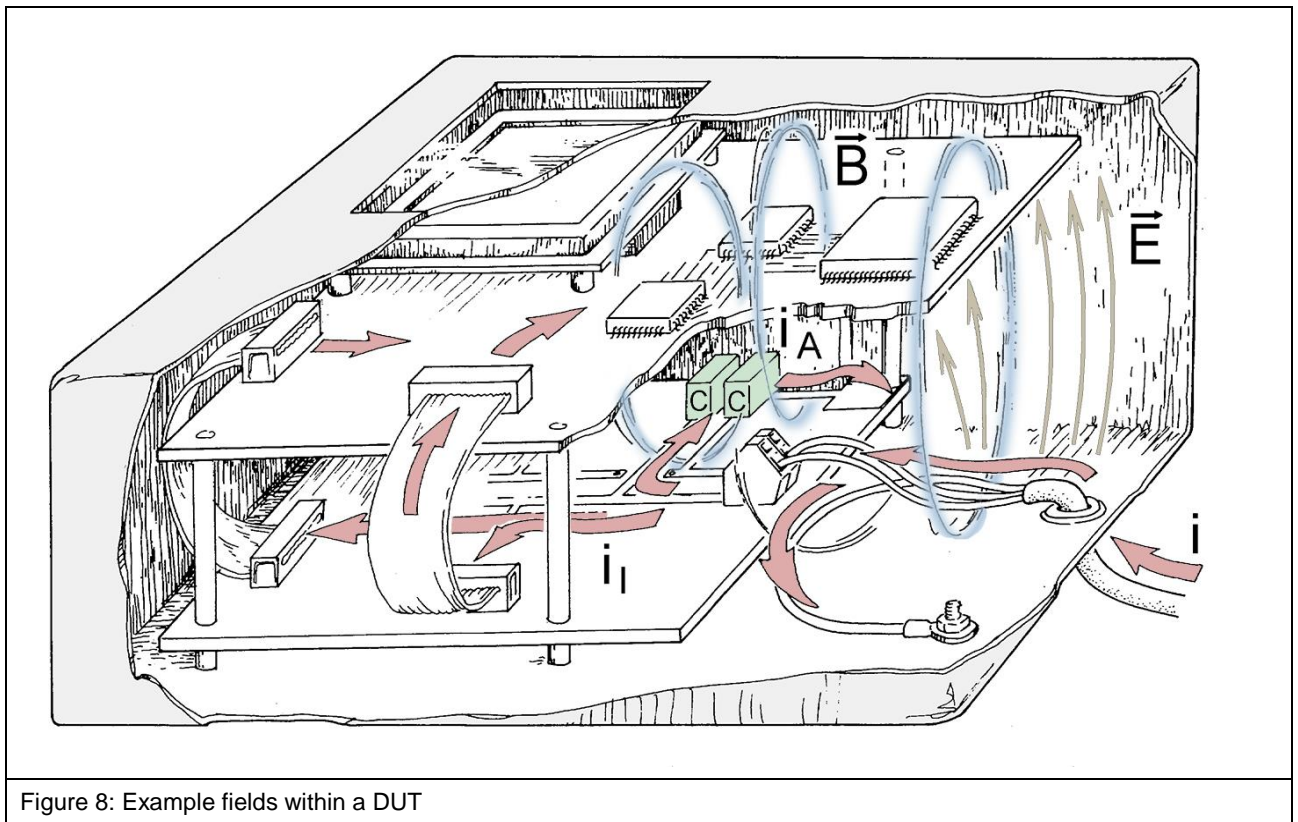

Figure 8: Example fields within a DUT
- Magnetic pulse fields (B) or electric pulse fields (E) are the main physical quantities that trigger an influence on printed circuit boards.
- In practice, both types of vulnerability are relevant. For example, electric fields can occur during interference processes, which cause electrically sensitive weak points to respond. The currents driven by the electric field generate magnetic fields, which in turn address magnetically sensitive weak points (**Figure 8**).